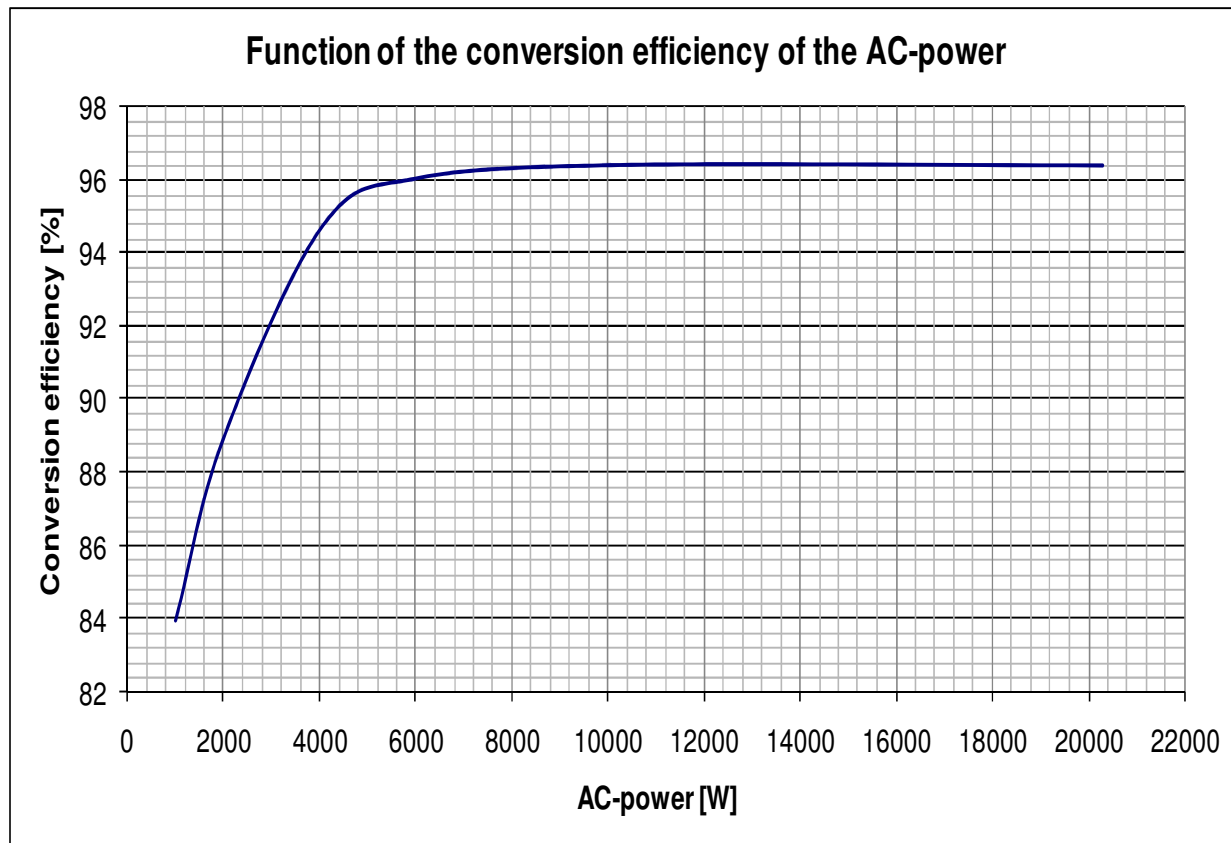

Figure 14: Operating ranges of the PFU-PD ...-400V systems
Operating ranges of the PFU-PD ...-400V systems subject to the source voltage see figure 14:
- The optimum operating range with regard to the efficiency is arranged in the range C in figure 14